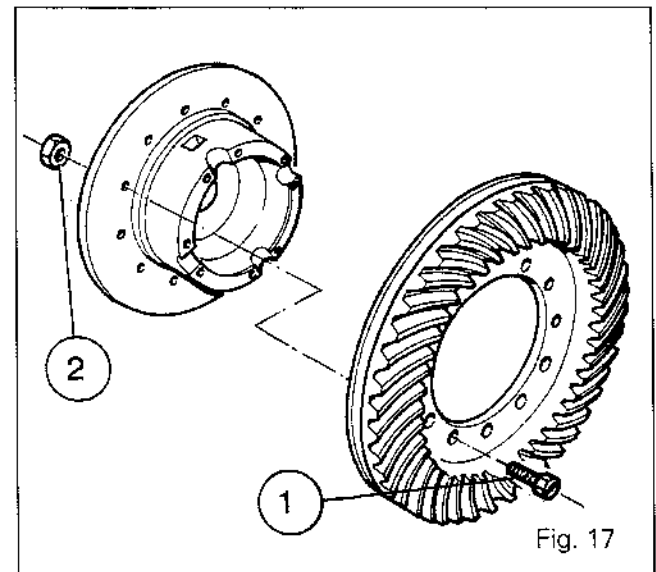

Fig. 17
98. Clean the mating faces on the new crown wheel (18) and on the housing (17), the bolts and the nuts specified in the spare parts catalogue.
99. Apply Loctite 270 on the leading threads of bolts (1) and position them in the crown wheel and the housing (Fig. 17).
100. Tighten and lock the nuts (2) (Fig. 17) to a torque of 150 to 160 Nm.